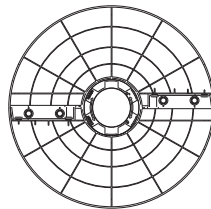

Fig.2
- 3 Then insert the fan body into the base. (See Fig. 2)